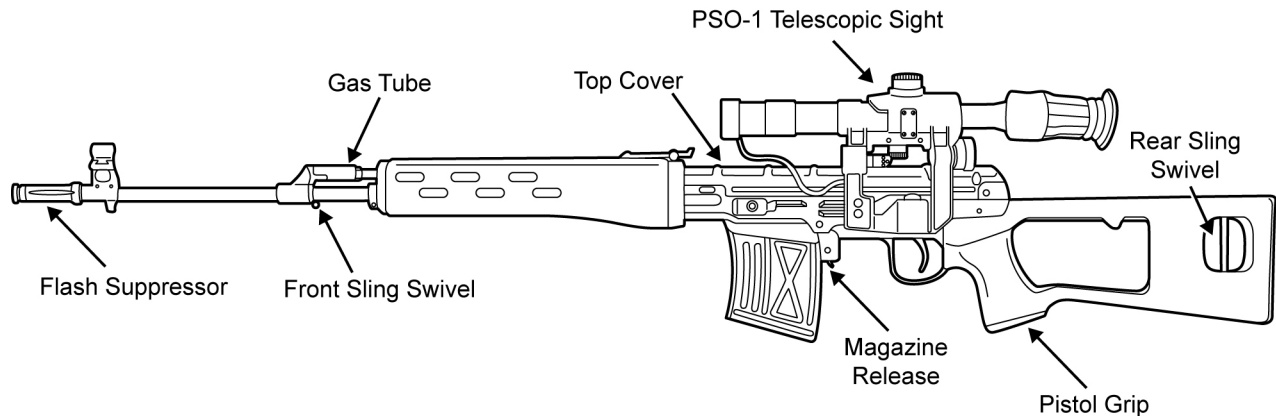

Figure 1. Left Side of SVD Sniper Rifle.
3. **Left Side View.** The left side view of the weapon displays the flash suppressor, front sling swivel, gas tube, top cover, magazine release, PSO-1 telescopic sight, pistol grip, and rear sling swivel. Refer to Figure 1.